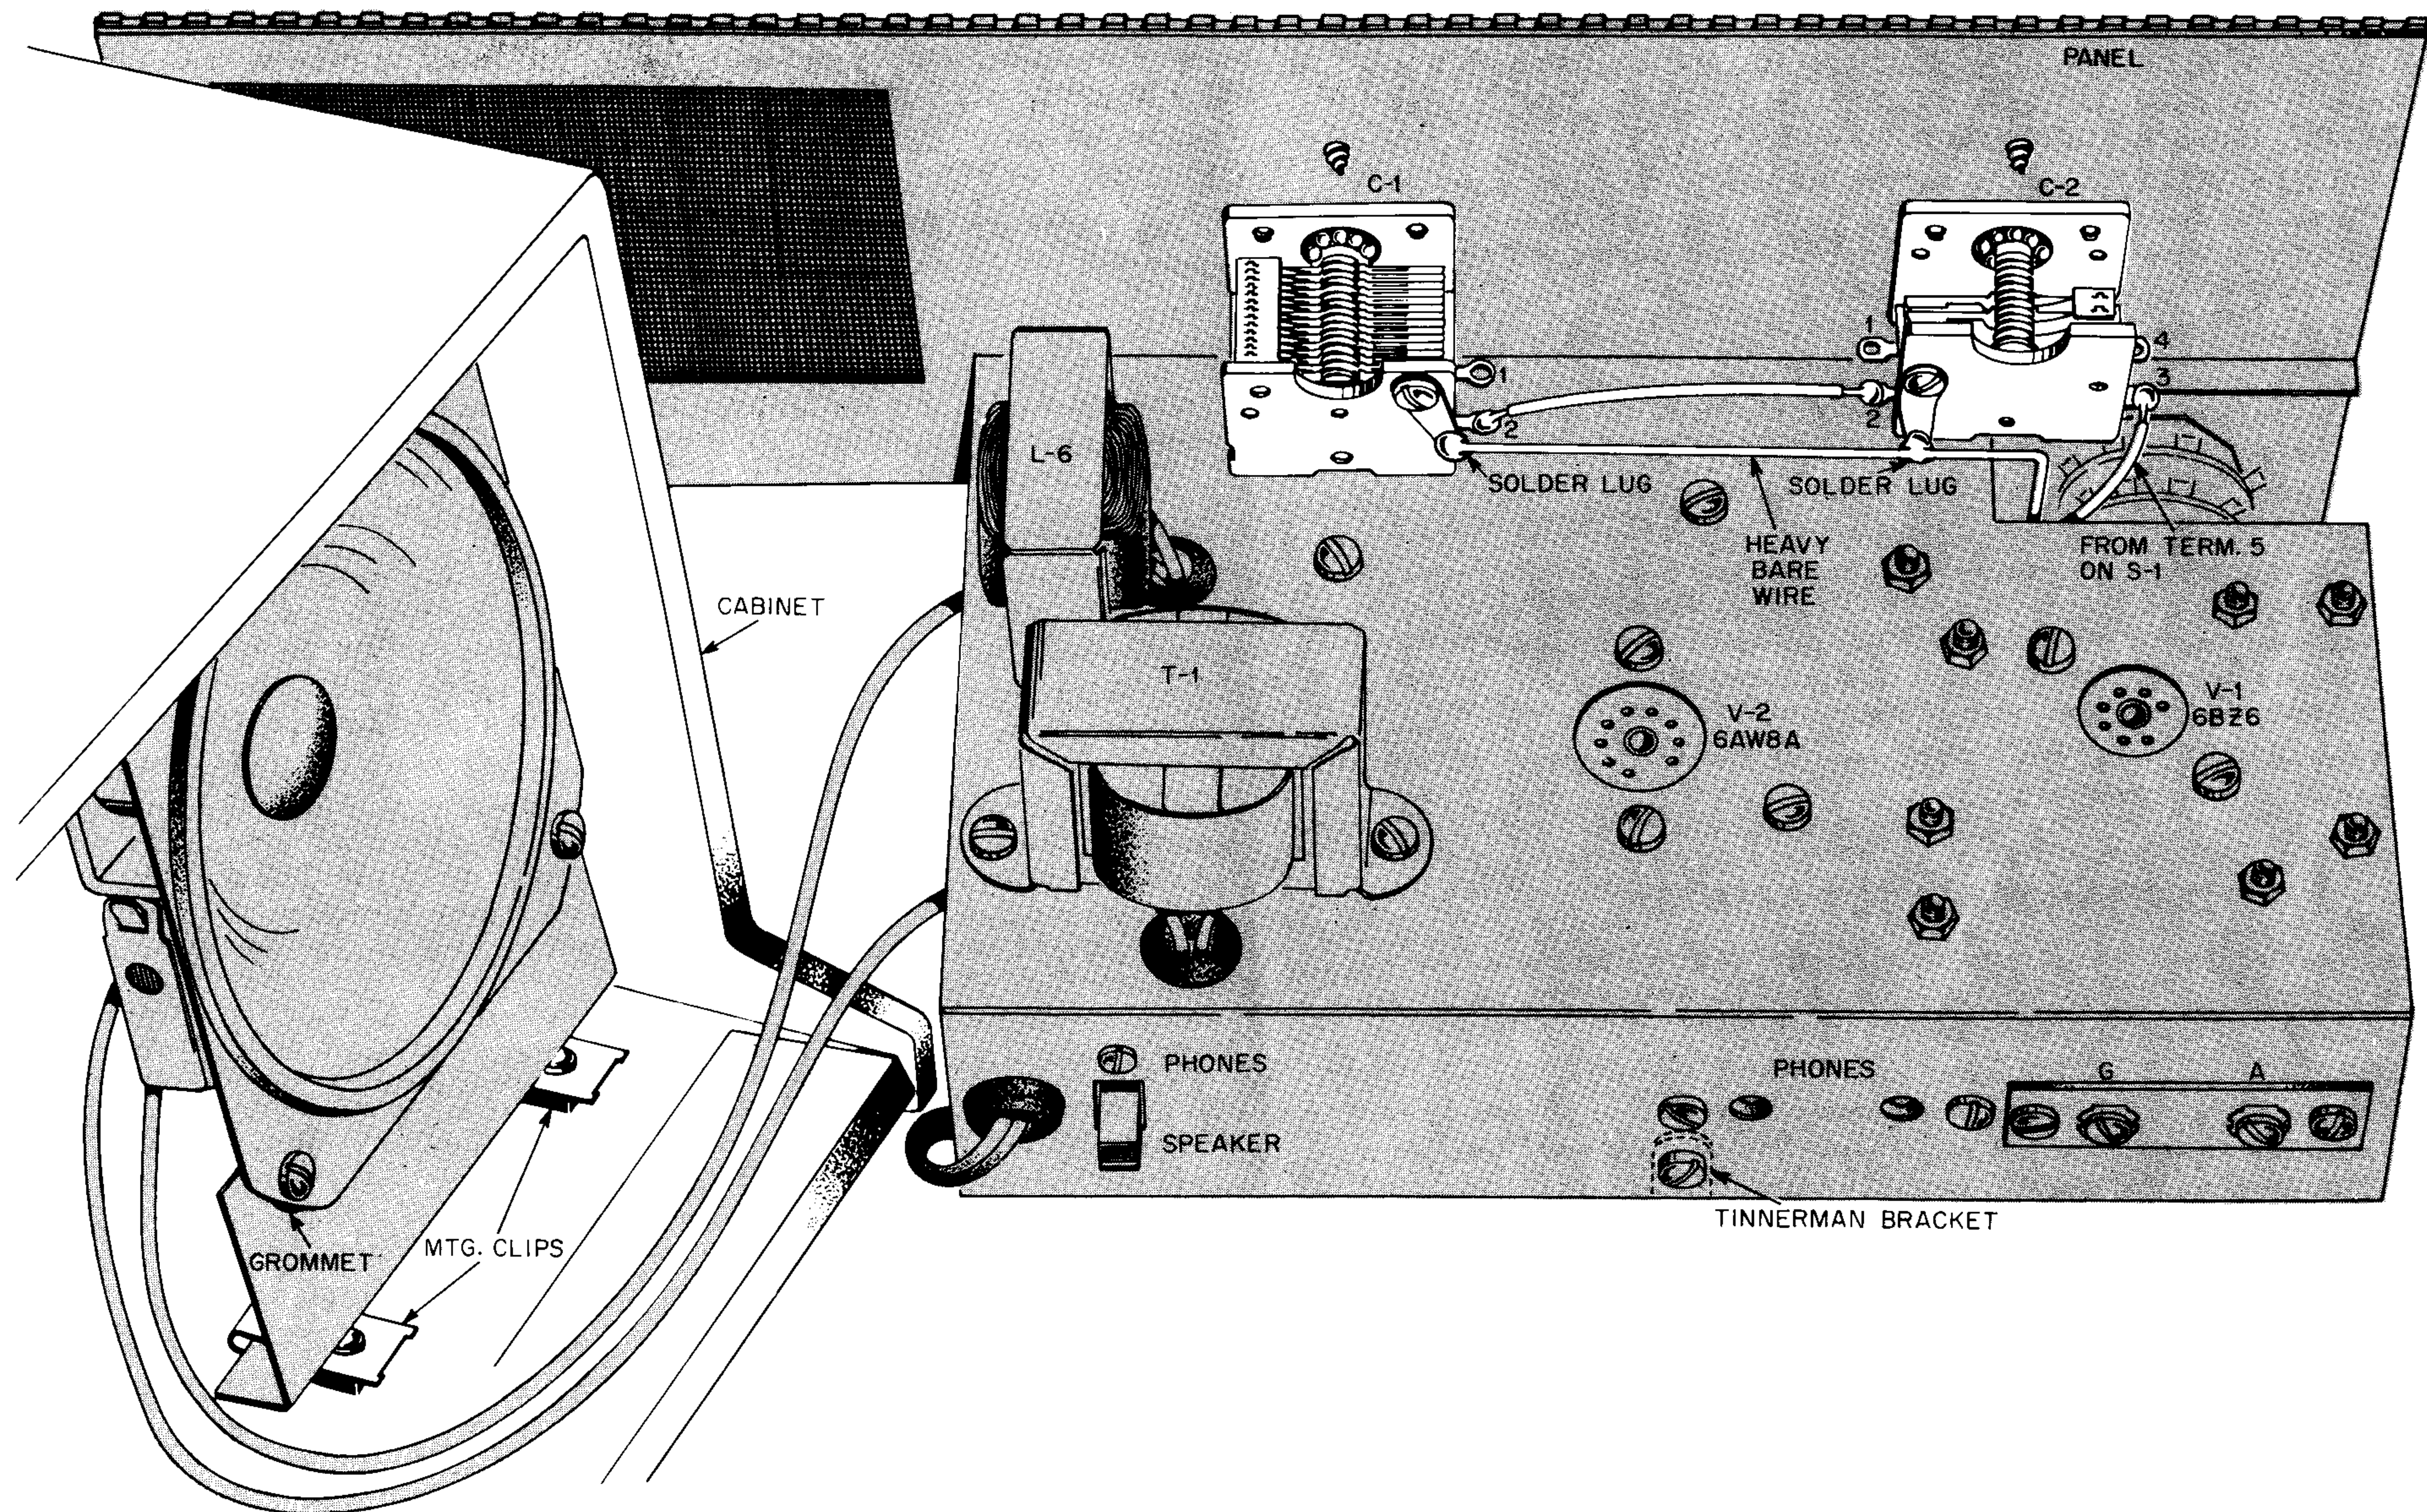

FIGURE 11. FINAL WIRING
- Insert the V-1, 6BZ6 tube and the V-2, 6AW8A tube in their sockets, as indicated in Figure 11.
The antenna brings into the receiver signals covering all bands. The better the antenna, the stronger the signal fed the receiver, and the greater the number of stations that can be received. Figure 11 shows how to install a good antenna.